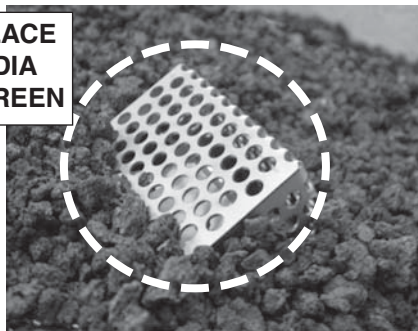

Fig. 15-2
1. Lay Log #1 across the volcanic stone, then lay the hooked part of Log #2 over one end of Log #1 at an angle of approximately 90 degrees (see Fig. 15-2).